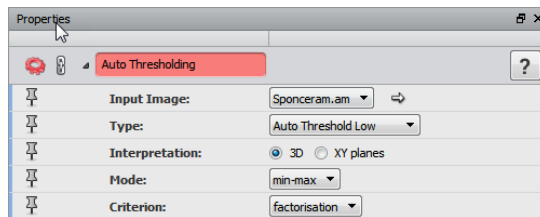

Figure 22.5: Auto Thresholding Module Configuration
2. Separate the void of the material using an *Auto Thresholding* module. Set the Type port to *Auto Threshold Low*. It will create two outputs `Sponceram.info` and `Sponceram.labels` (see Figure 22.5).